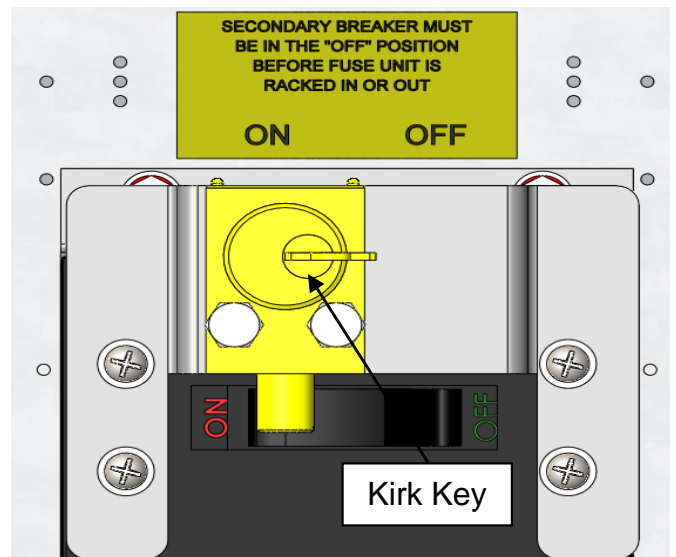

Figure 26: Secondary breaker interlock
1. Verify the secondary breaker, located in the low voltage compartment is in the “OFF” position and the interlock key from secondary breaker Kirk lock is removed. This will prevent the breaker from switching to “ON” position (see Figure 26).
5. Engage the racking screw with the racking tool and rotate clockwise (CW), until the racking screw stops and the unit is in the CONNECTED position, approximately 25 turns.
7. Press down the CPT fuse unit interlock lever and remove the key from CPT fuse unit Kirk lock (see Figure 26). The key can be removed only when the Kirk lock plunger is completely engaged with the interlock mechanism.